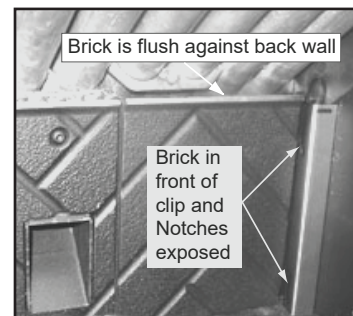

Figure 27.4
3. Reinstall bricks in reverse order ensuring that the bricks are flush against the back wall of the firebox (**Figure 27.4 & 27.5**).